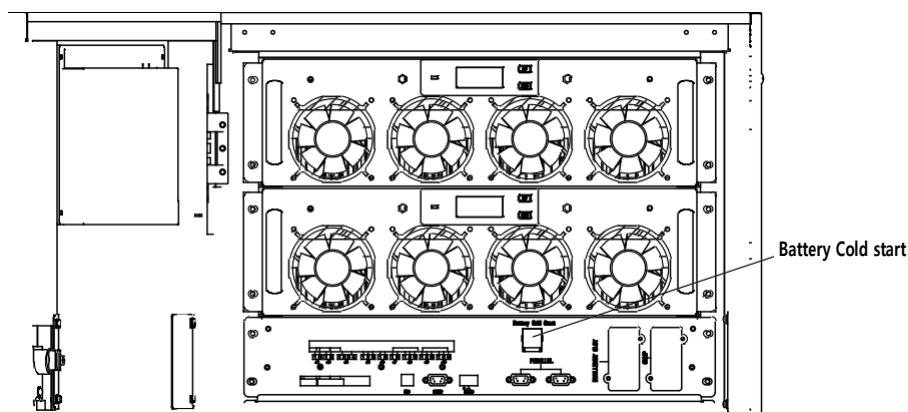

Figure 4-1 The position of the battery cold start button
- 2) Press the red button for the battery cold start (as shown in Figure 4-1). The system is then powered by the battery.